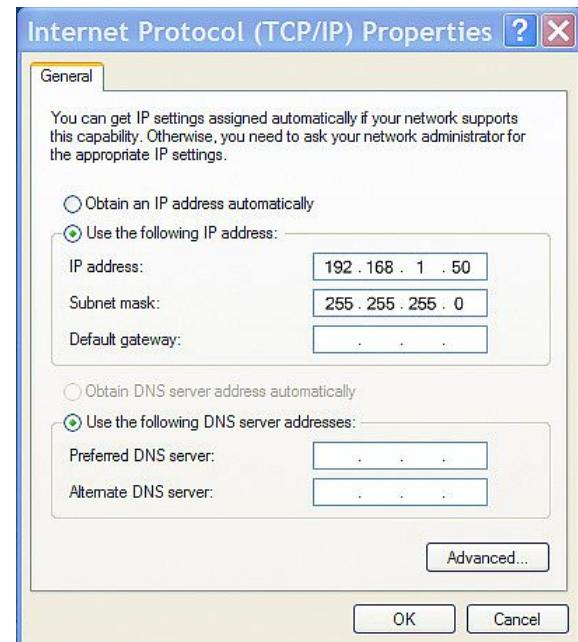

Figure 2.3e- TCP/IP Properties
4. In the Local Area Connection Properties window in the Connection Uses box, scroll down and highlight “Internet Protocol (TCP/IP).” Click the button labeled “Properties.” The “Internet Protocol (TCP/IP)” Properties menu appears (Figure 2.3e).